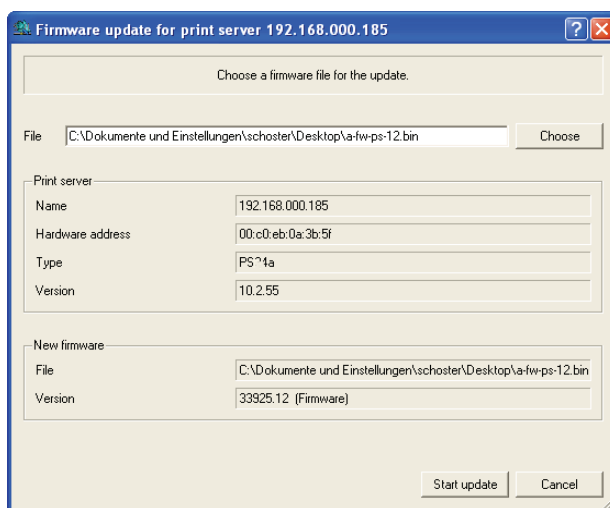

Fig. 23: PRINTSERVER-NetTool - Standard Update
3. Select **Actions – Firmware Update – Standard Update** from the menu bar. The update dialog appears; see Fig. 23 ⇒  159.